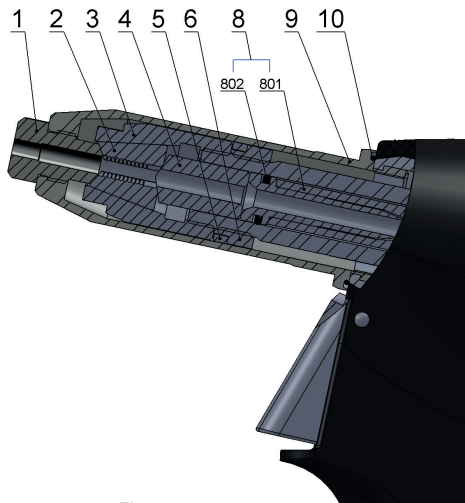
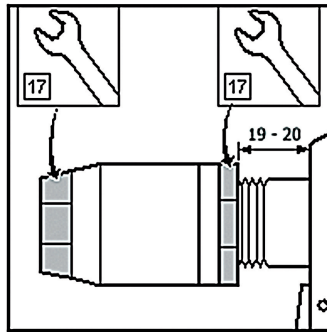

Fig.2
Fig.3
Disconnect the tool from the source of compressed air, unscrew the front nozzle /fig.2 - pos.9/ by means of a spanner no.23, set the spanner no.17(15) onto the clamping sleeve /fig.2 - pos.3/, set the spanner no.17 on the backnut /fig.2 - pos.6/ and loosen. Unscrew the clamping sleeve, replace the jaws /fig.2 - pos.2/ and conduit-suction complet /fig.2 - pos.8/. All used threads are clockwise. Clean the dismantled parts thoroughly and check them visually, especially the following:
- 1) Jaws /fig.2 – pos.2/ - if worn or damaged, replace it, if dirty, clean it with a wire brush.
- 2) Nose-piece /fig.2 – pos.1/ - for wear of functional surfaces of the taper.
- 3) Jaw pusher /fig.2 – pos.4/ - for wear of functional surface of the taper.
- 4) Conduit-suction complet /fig.2 - pos.8/ - inspect parts of the assembly, O - ring /fig.2 - pos.802/ and conduit-suction /fig.2 - pos.801/ - if damaged or worn, replace it with a new one.
- 5) Front nozzle /fig.2 - pos.9/ - check for damage of the internal surface ($\varnothing 20$) .
- 6) Scraper ring /fig.2 - pos.5/ - if damaged or worn, replace it with a new one.
Mount the parts (see par. disassembly) in a reverse order. On the outer surface of the jaws /fig.2 – pos.2/ apply a drop of lubricating oil (we recommend hydraulic oil HYPIN AWHM 32 CASTROL), apply thin layer of plastic lubricant MOGUL LV 2-3 to the conduit-suction complet /fig.2 – pos.8/. Basic set-up of the jaws is performed as in fig. 3.